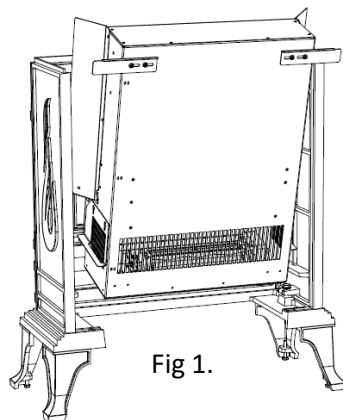

Fig 1.
5. Insert the flame effect unit into the stove body as shown below Fig 1. Take care not to trap the mains cable whilst lowering the flame effect unit into the stove body.